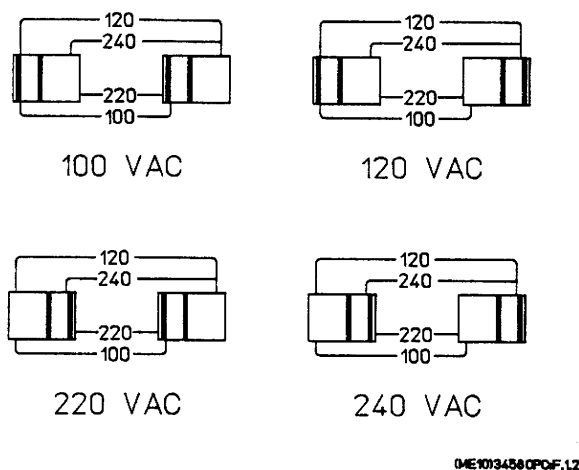

Figure 1-2 AC line voltage switch positions
- 2 With a small flat blade screwdriver, move the switches to the appropriate positions as shown in Figure 1-2